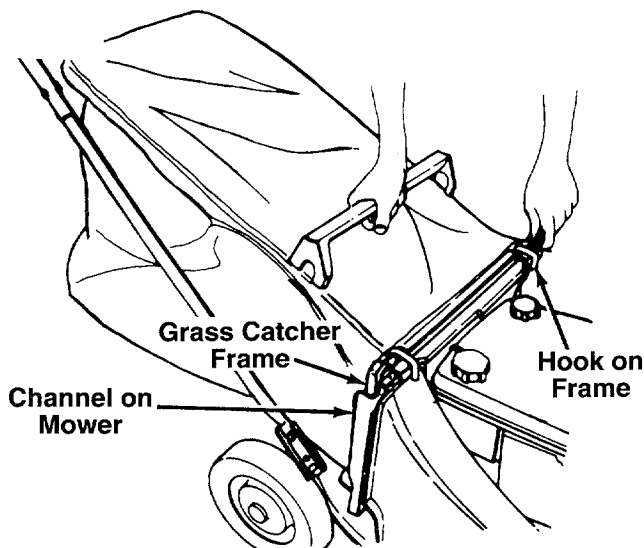

FIGURE 15.
1. Hold the chute door on the catcher panel open as shown in figure 15.
2. Slide the frame of the grass catcher down into the channels on each side of the mower. The hooks on the frame go over the panel on the discharge chute. See figure 15.